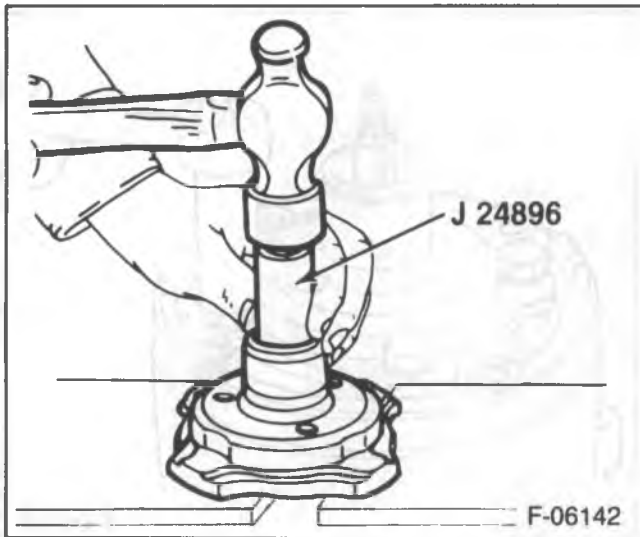

Figure 19—Removing the Bearing from the Front Head
- Place the head on two blocks and drive the bearing from the head using J 24896 (figure 19).